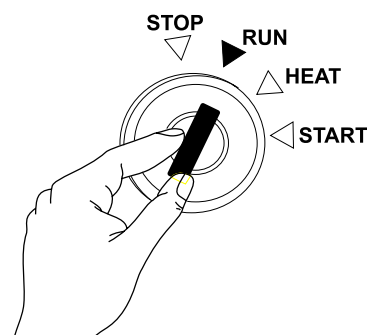
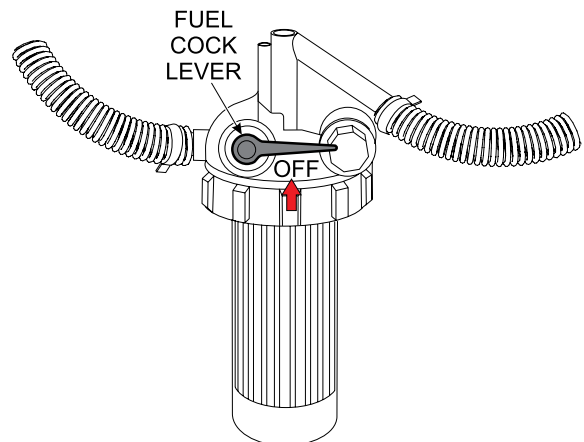

Figure 25. Starter Switch (RUN)
Figure 37. Fuel Cock Lever (OFF)
1. Insert the key into the starter switch (Figure 25) and turn it to the "RUN" position..
7. Place fuel cock lever (Figure 37) in the **OFF** position.
1. Place starter switch key (Figure 25) in **STOP** position. Remove key. Place fuel cock lever (Figure 37)) in the **OFF** position.